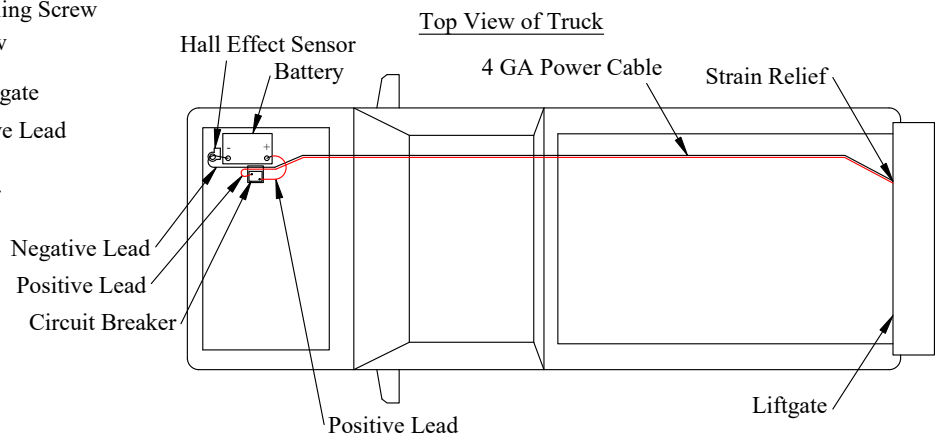

Figure 18: Electrical routing.
3. **Loosen** the strain relief on the back of the liftgate mainframe (Figure 18).
4. **Pull** the power cable (coiled up in the liftgate mainframe) carefully through the strain relief. Leave approximately two (2) inches of slack inside the liftgate mainframe (Figure 18).
6. **Route** the power cables along frame (Figure 18) to the battery following *Tommy Gate Recommended Electrical Wiring Guidelines*.